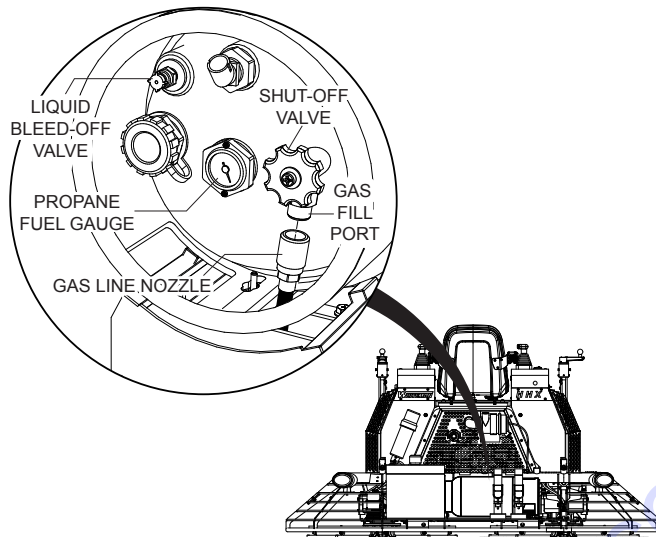

Figure 14. Propane Tank Shut-Off Valve
1. Turn the shutoff valve knob (Figure 14) clockwise to release propane gas.